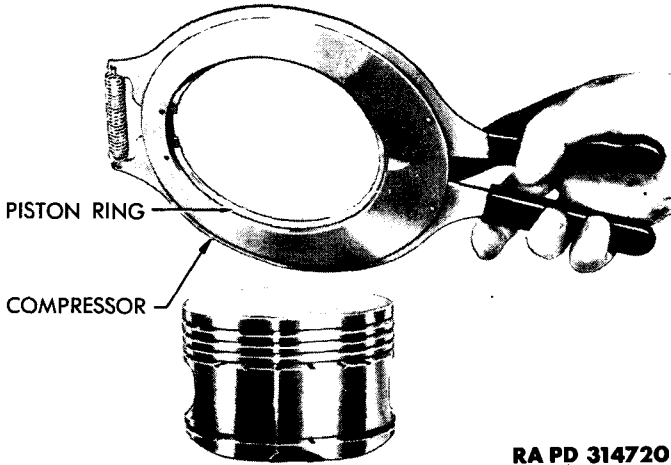

Figure 114 – Installing Piston Rings Using Applier 41-A-329-500
a. **Remove Piston Rings.** Using piston ring tool, remove five piston rings from each piston (fig. 114). Unless rings are in unusually good condition, replace them after piston inspection. As the piston pin and articulated rod for each piston assembly was removed during engine disassembly, all parts are now disassembled.